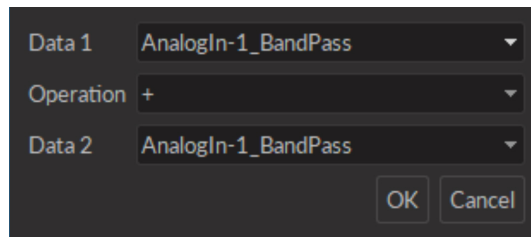

Figure 4.37: Arithmetic Window
- The **Arithmetics** button opens the arithmetic window (Fig. 4.37). From this window simple arithmetic operations (+, -, ×, ÷) can be performed on any two data sets currently in the module. This includes data sets that have already been processed.